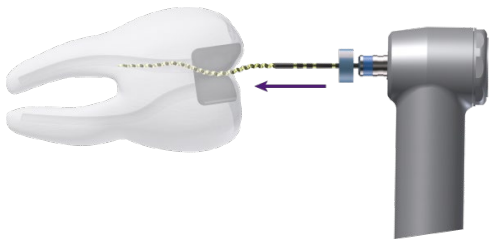

Figure 1
7. Insert the shaping file **XP-4D® STANDARD** into the canal until resistance (Fig. 1), retract (tip loose) and start the motor.
1. Gently engage a retreatment instrument into the obturation material in order to create a 3-4 mm starting point for the XP-4D tip (Fig. 1). *For an optimal result, the use of DR1 (D-Race) is recommended.*